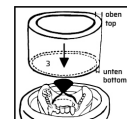

Figure 3
- Place the thin side of the ring of the SHERAMUFFELFORMER MG in the base of the ring. (Figure 3)